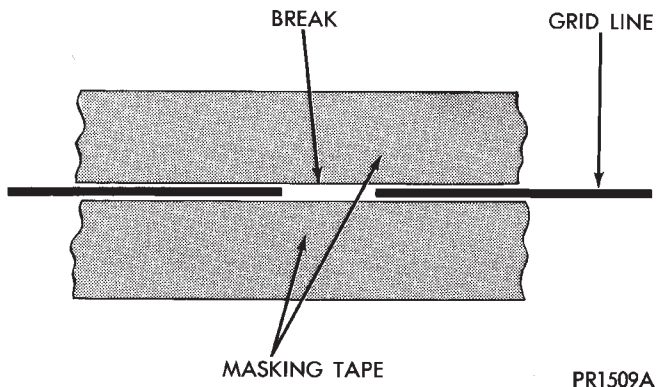

Fig. 2 Grid Line Repair - Typical
(1) Mask the repair area so that the conductive epoxy can be applied neatly. Extend the epoxy application onto the grid line or the bus bar on each side of the break (Fig. 2).